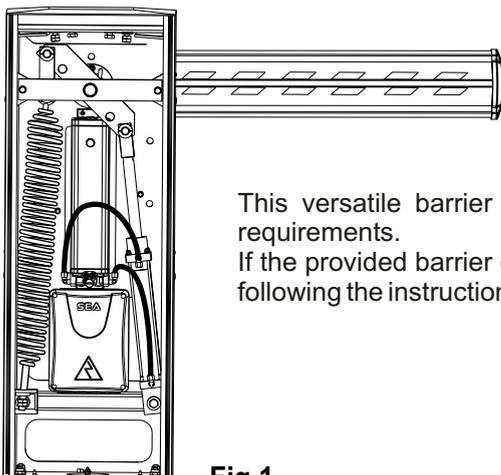

Fig.1
**N.B.:** The operator comes as shown in Fig.1 (Closing on the right hand side).
Barrier with right hand closing (Fig. 1)